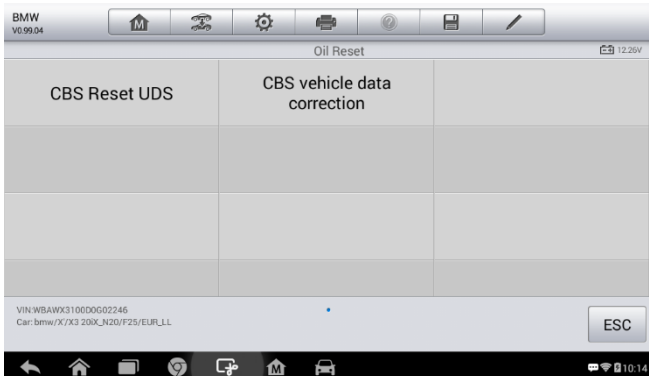

Figure 5-1 *Sample Oil Reset Function List*
3. Tap the function you want in the Oil Reset function list, the list may vary for different vehicles being tested (Figure 5.1).